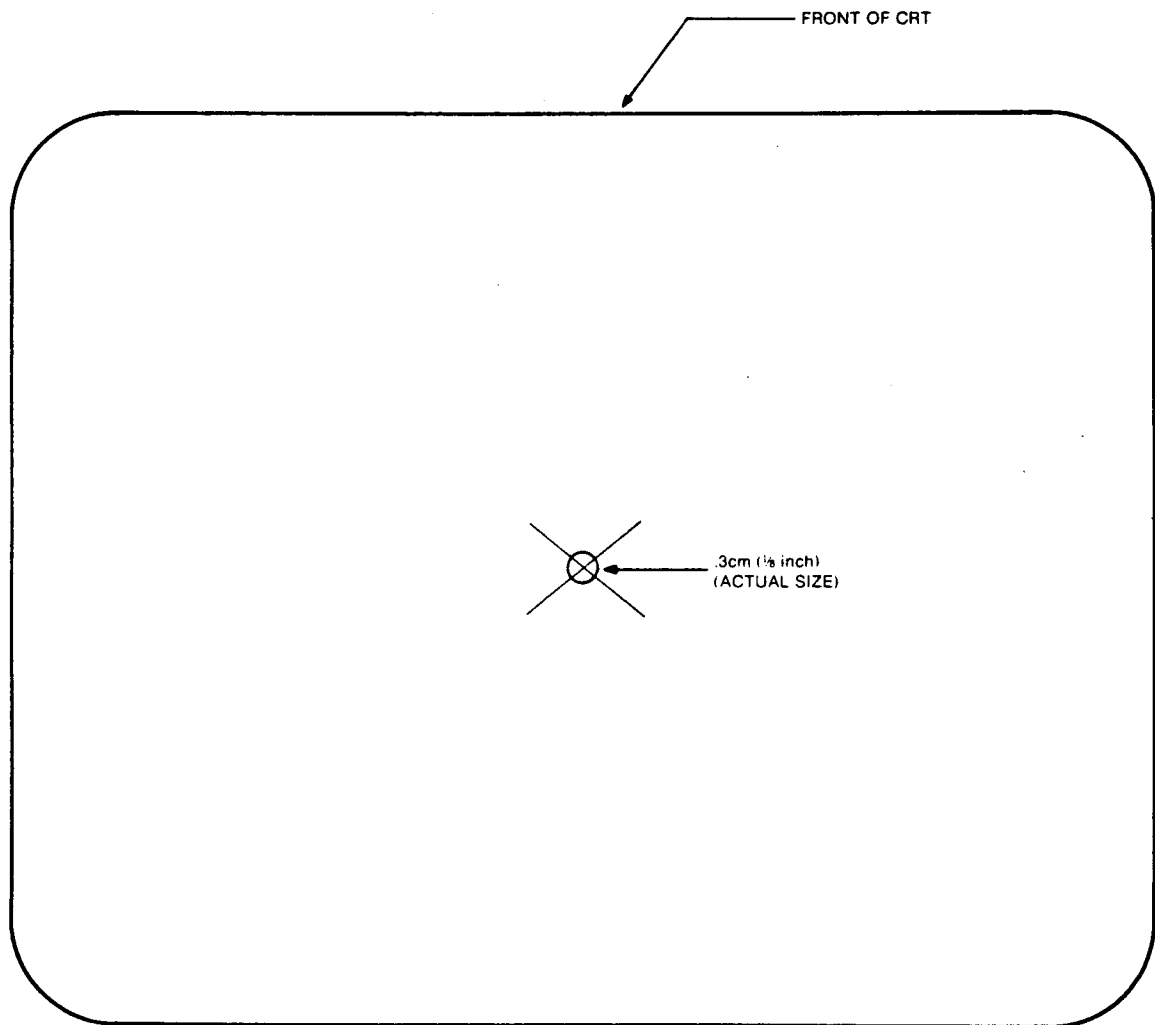

Figure 5-2. Yoke Centering Adjustment
- c. While holding a flexible straight edge from the lower-left corner to the upper-right corner of the CRT (facing the CRT), make a mark about one inch long with a water soluble felt pen across the center of the CRT. See Figure 5-2.
- d. Repeat the above step for the upper-left corner and the lower-right corner forming an "X" in the center of the CRT. See Figure 5-2.
- i. The dot should appear within a 3cm (1/8 inch) radius of the intersection of two lines. If this does not occur, align the dot using the centering rings on the yoke. See Figure 5-2.